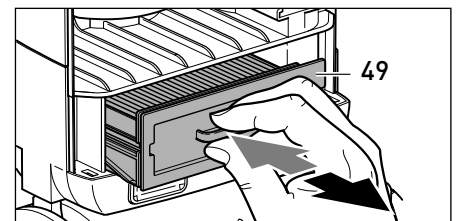
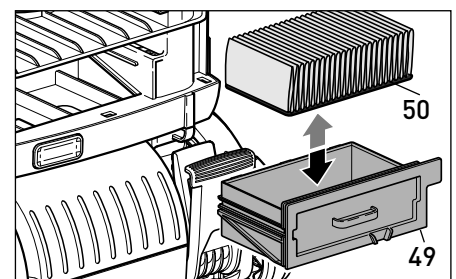

Figure 19
Figure 20
## Changing the Exhaust Microfilter - Figures 19 & 20
After 20 bags have been used, change the exhaust filter. To change the exhaust filter, remove the bag housing cover (24) by pressing the cover release button (19) and lifting the cover up and out. Grasp the handle on the orange filter holder (49 - figure 19) and pull it out. Pull the filter out of the holder. Insert the new filter rubber-gasket-side-down (50 - figure 20) into the holder and reinsert the holder. Replace the bag housing cover and snap it in place.